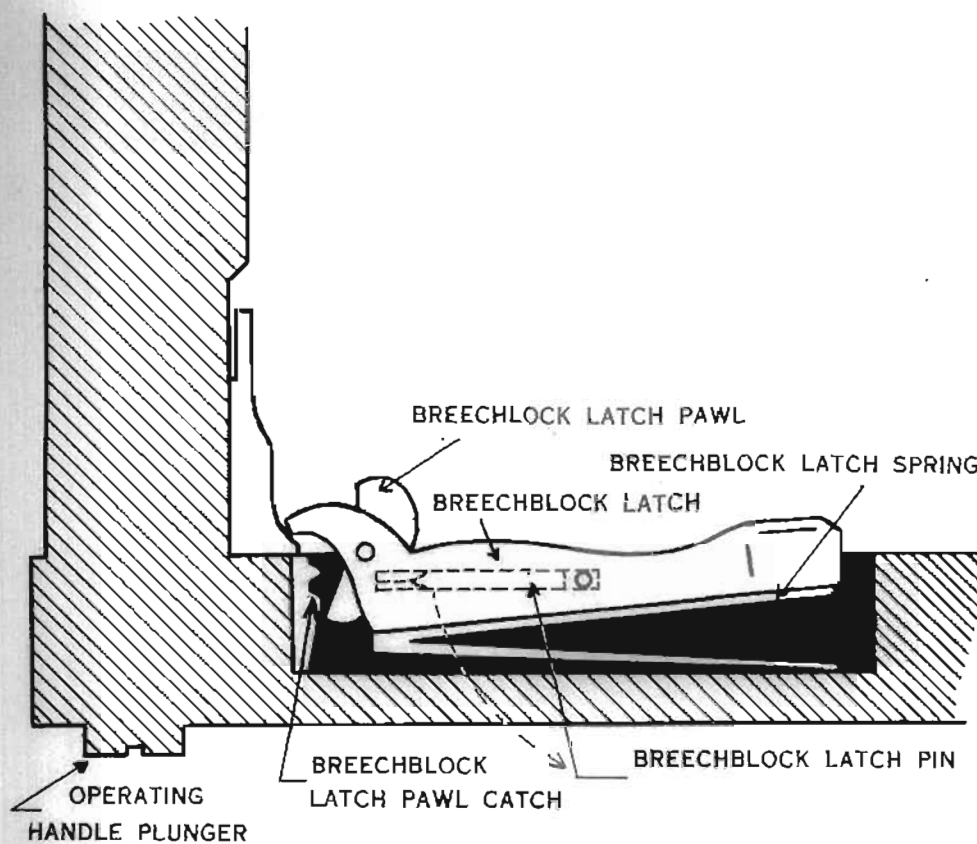

Figure 21
4. Remove breechblock latch spring (fig. 21).